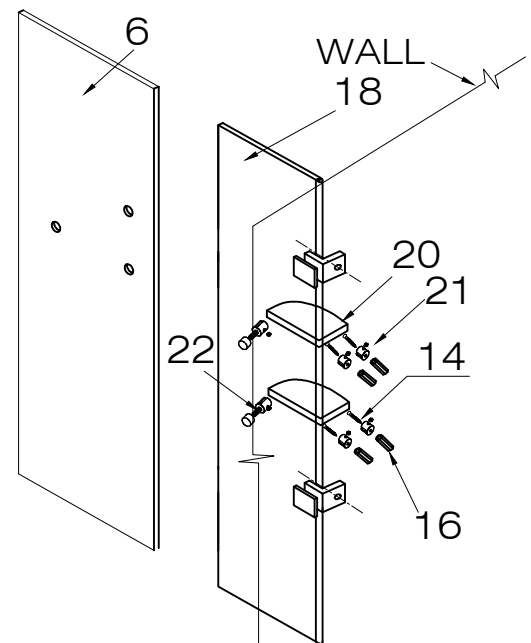

FIG.6
1. Unscrew the shelf glass holder cap (#22), insert threaded portion of shelf holder into the hole of the side glass panel (#18) and then screw the holder cap back. The upper glass shelf shall be installed first. [SEE FIG.6].